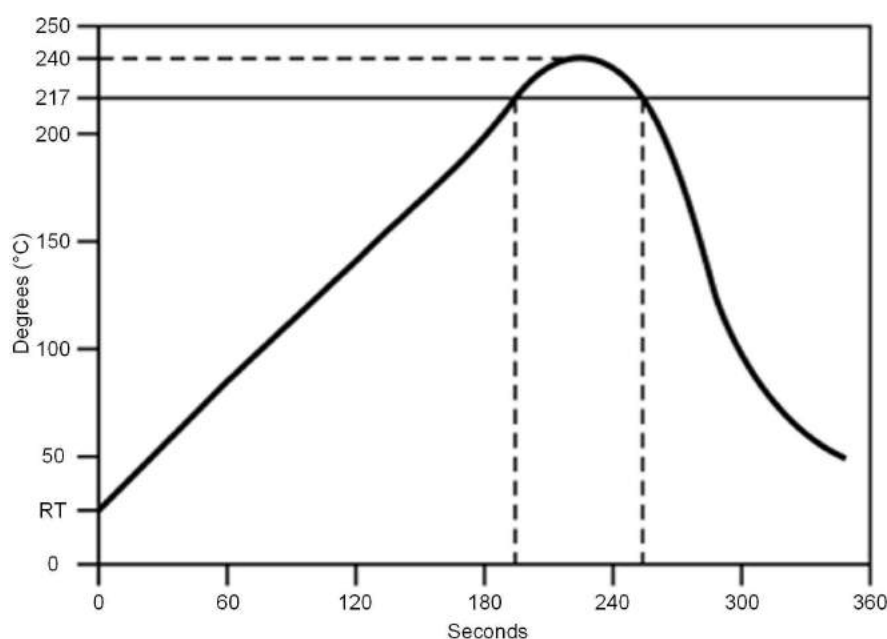

Figure 11. Temperature Profile for Evaluation of Solder Heat Resistance of a Component (at Solder Joint)
- Temperature measurement: Thermocouple $d = 0.1 \text{ mm}$ to 0.2 mm CA (K) or CC (T) at soldering portion or equivalent method
- Allowable reflow soldering times: 2 times based on the reflow soldering profile (see Figure 11)
- Temperature profile: Reflow soldering will be done according to the temperature profile (see Figure 11)